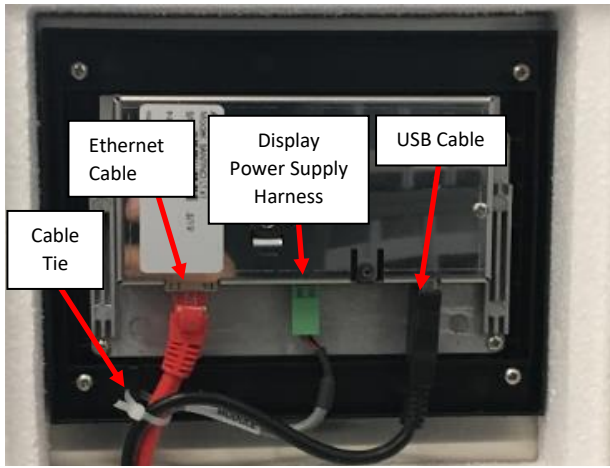
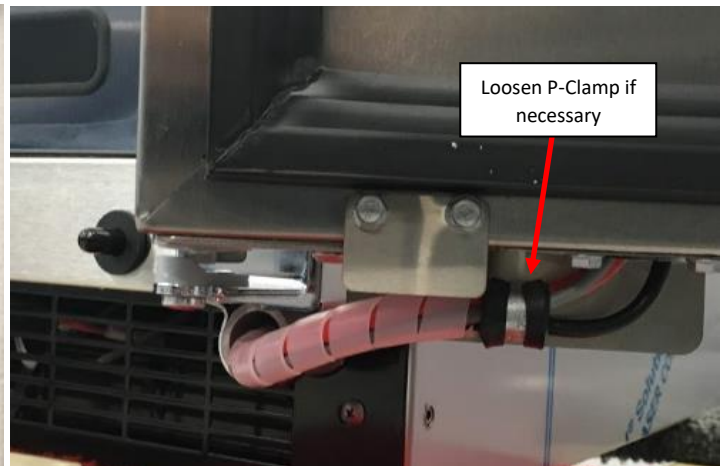

Figure 2a: Screen Wiring shown.
Figure 2b: P-Clamp Location.
- i. Open the door and remove the screen cover and foam to verify that the Display Power Supply Harness is plugged in. **See Figure 2a**. If the Display Power Supply Harness is under a lot of tension, cut the cable tie and remove the tension. The P-Clamp, seen in **Figure 2b**, at the exit (bottom of door) might need to be loosened accommodate this. Refer to **Appendix C: JoeTap NITCOM Wiring Diagram** for full wiring diagram.